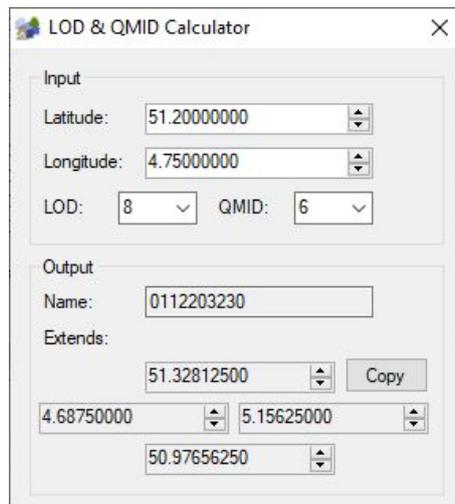

Figure 3.2: LOD & QMID Calculator
- LOD & QMID Calculator, which allows you to determine the LOD tile name and extends based on a given location and given LOD or QMID size. See Figure 3.2 for a screenshot of this calculator.